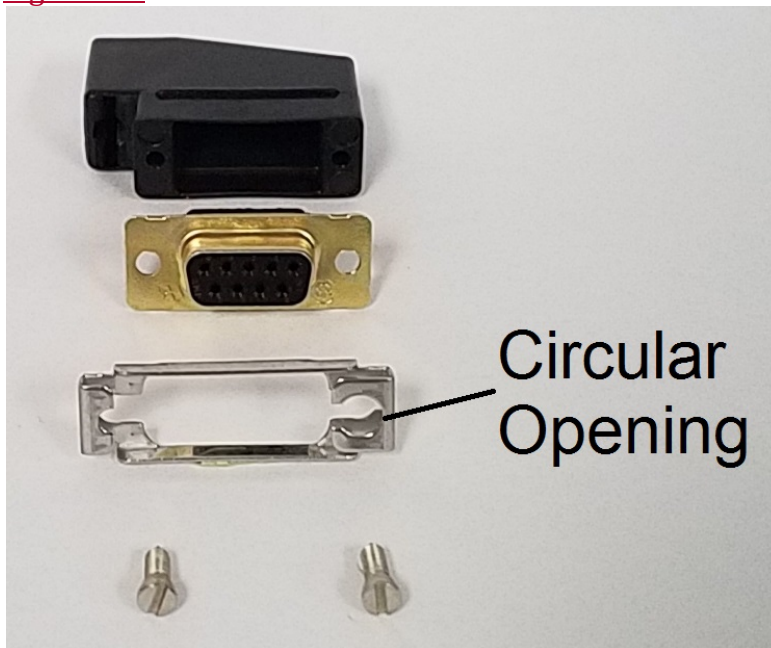

Figure 3-4
5.1. The roll servo connector backshell and slidelock should be assembled as shown in Figure 3-4.